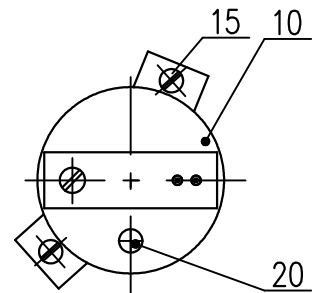

Fig.6
4.5 Adjustment of the Capacitive Transmitter CPT1/A (Fig.6)